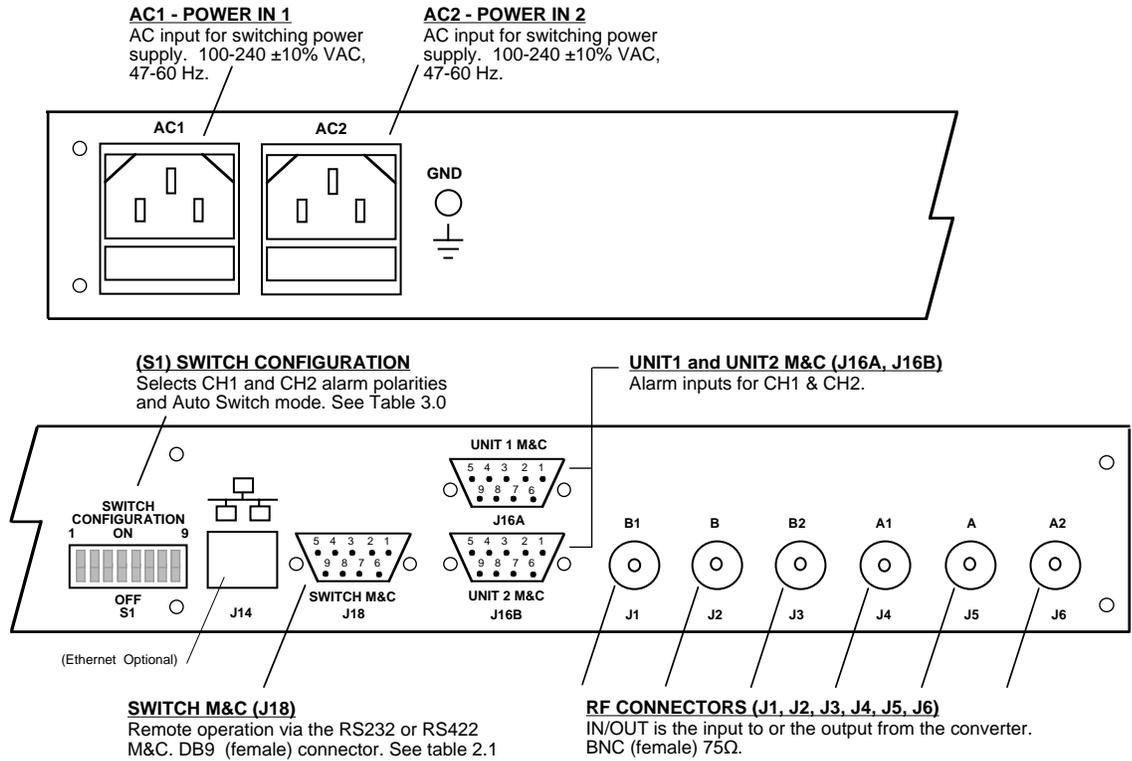

FIGURE 2.2 1582-122L Switch Rear Panel Inputs/Outputs
Figure 2.2 shows the input and output connectors on the rear panel.
4. Connect to signals on the MONITORS AND CONTROLS (DB9 connectors), J16A & J16B, as desired (see Figure 2.2, Table 2.1).